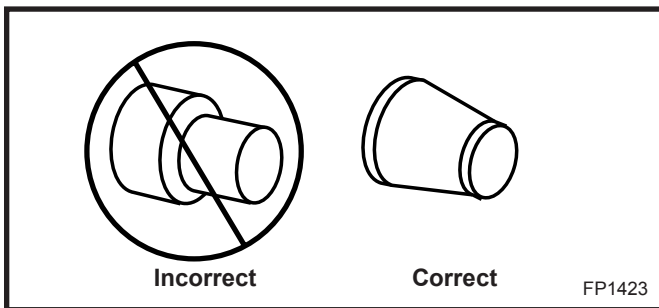

**Fig. 4** Minimum clearance.
3. Power Venter housing in single wall a 6" (152 mm) clearance must be maintained. (Fig. 4)